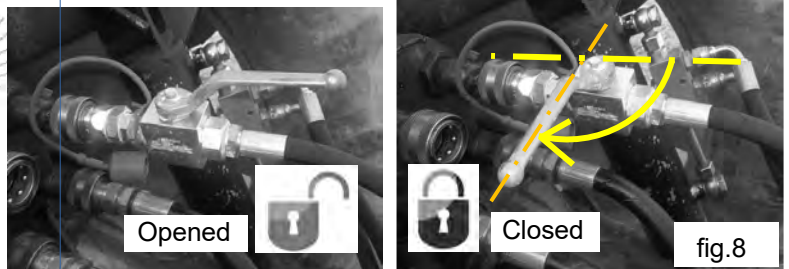

fig.8
3. tractor hydraulic outlet - close the tap on the hydraulic circuit of the hay rake (fig. 8).